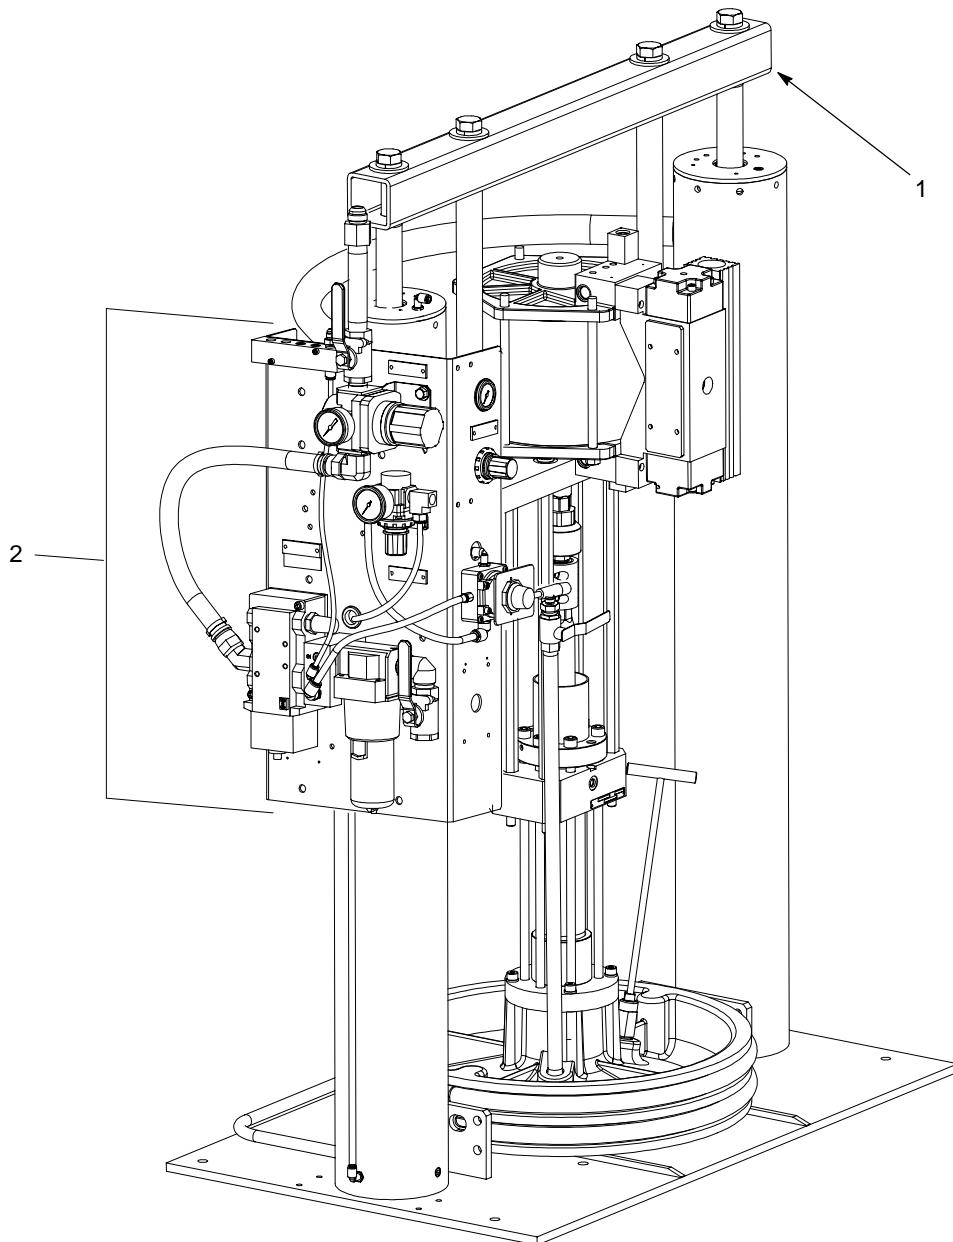

Figure 1 Control Module (Large Frame Rhino SD/XD Bulk Unloader Shown)
See Figure 1. The Control Module (1) provides the electrical operating functions for Rhino SD/XD bulk unloaders (2). It mounts to the side of small and large frame Rhino SD/XD bulk unloaders.